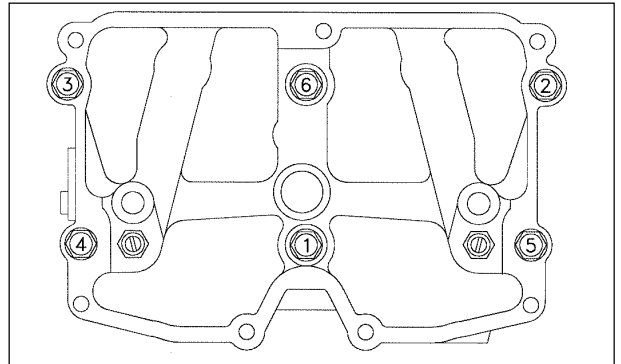

Figure 4-5
5. Install the nuts provided in the kit and tighten to 30 lbft (40 N\*m) in sequence as shown in Figure 4-5 then re-torque to 60lbft (80M\*m).